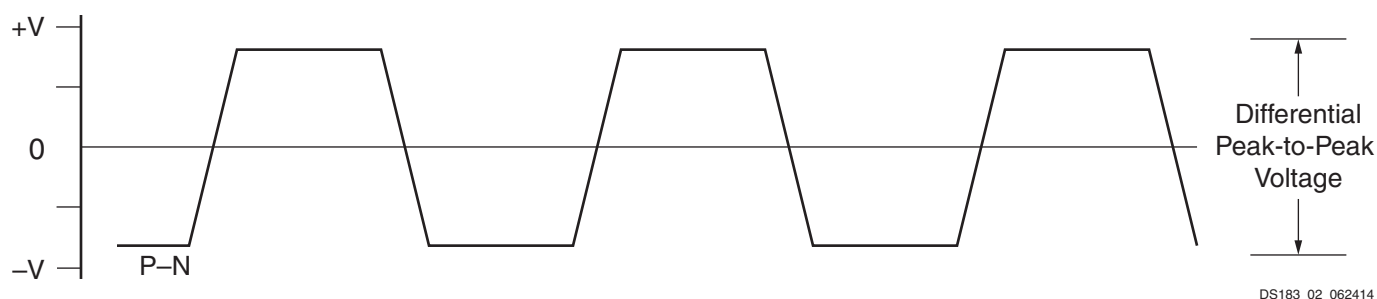

Figure 7: Differential Peak-to-Peak Voltage
**Note:** In Figure 7, differential peak-to-peak voltage = single-ended peak-to-peak voltage x 2.